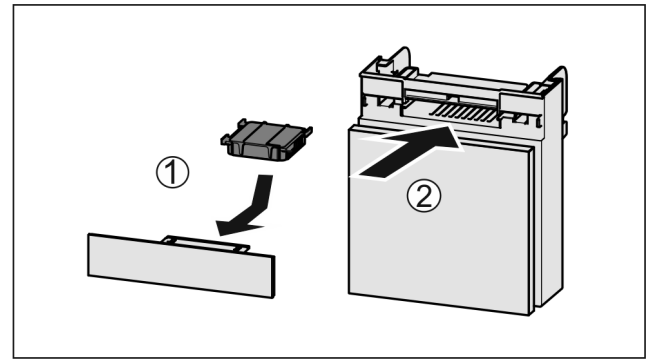

Fig. 190
- Insert the carbon filter as shown in the diagram Fig. 190 (1).
- Push the compartment in Fig. 190 (2).